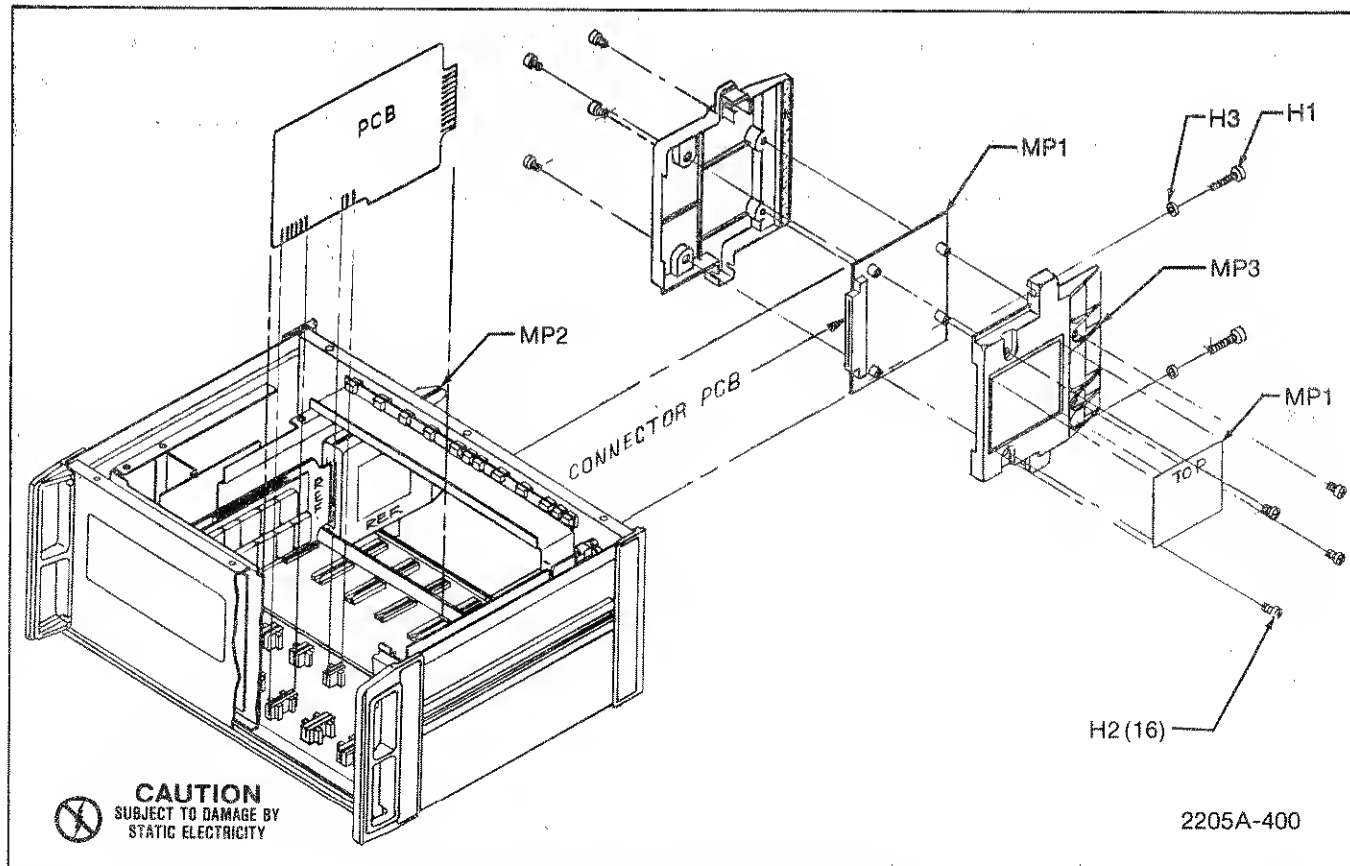

Figure 400-4. Four-wire Resistance Scanner
| -400② | FOUR-WIRE RESISTANCE SCANNER FIGURE 400-4 | ORDER | BY | OPTION -400 | | | |